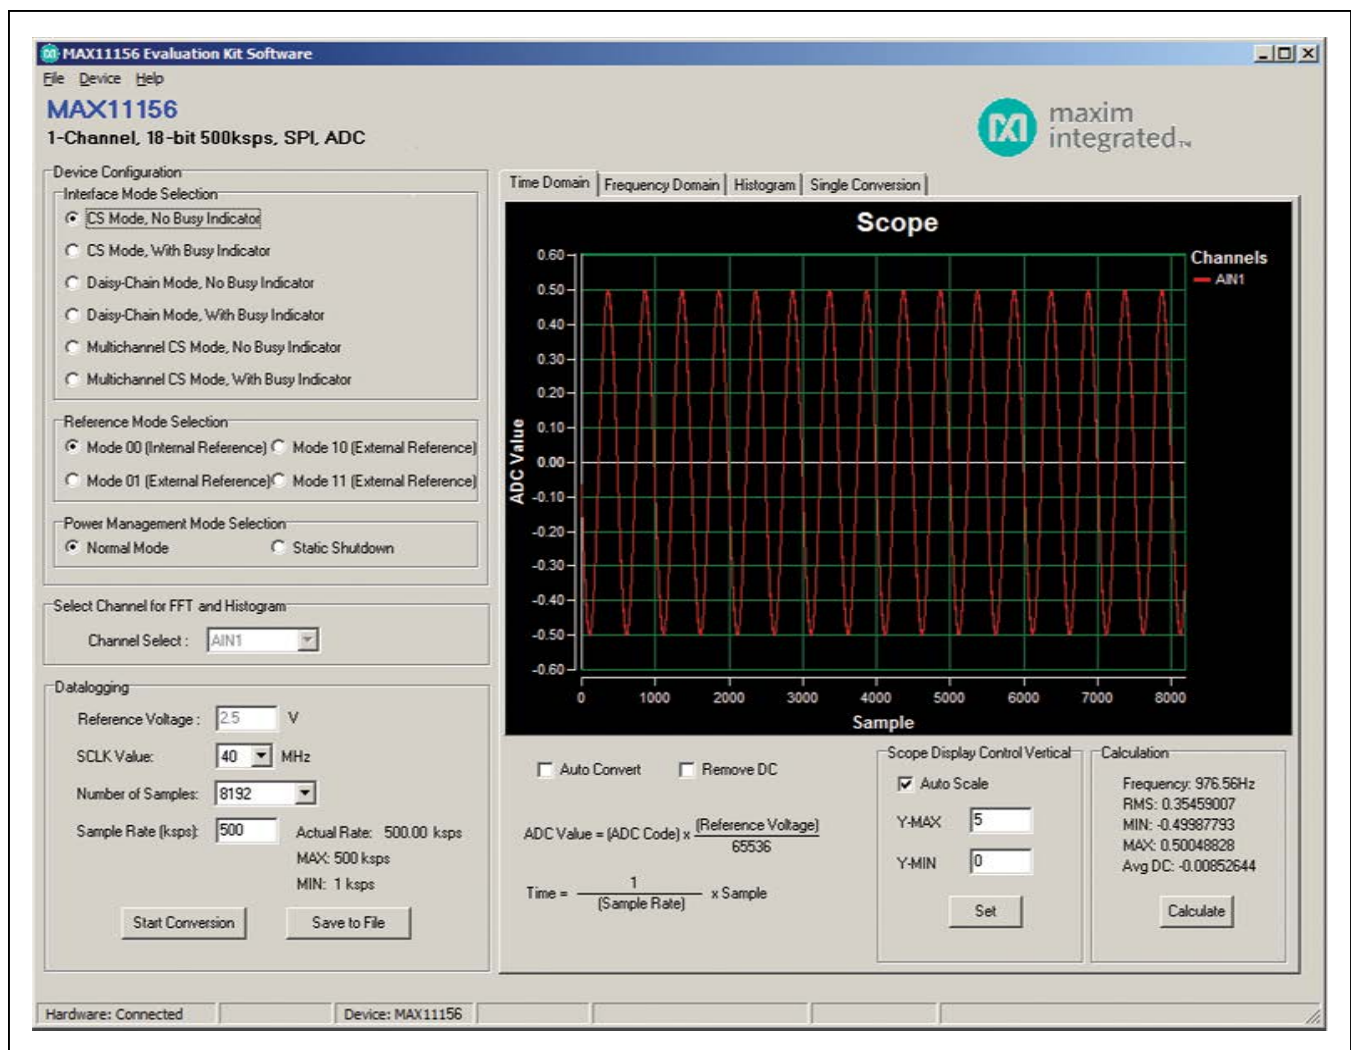

Figure 1. MAX11156 Evaluation System Software Main Window
- 13) Start the EV system software by opening its icon in the **Start | Programs** menu. The EV system software device selection window appears, as shown in Figure 1.
The main window of the evaluation software (shown in Figure 1) configures the ADCs and displays the data using the four tab sheets: **Time Domain**, **Frequency Domain**, **Histogram**, and **Single Conversion**. In addition, the sampled data can be saved to a file.